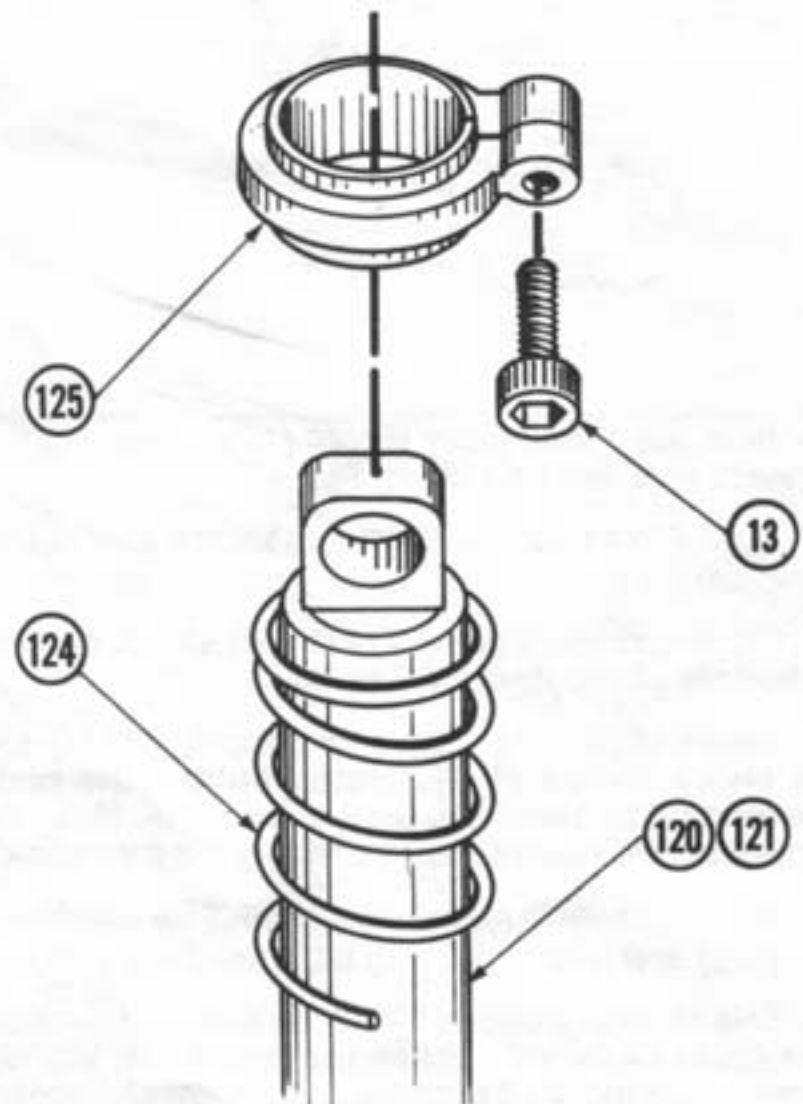

Figure 49
16. Insert a 4-40 x 3/8" cap head screw (13) into the larger hole of the shock collar (125) and thread into the smaller hole. Fig. 49
17. With the collar (125) loose, slide it down over top of shock body (120), (121) against spring (124) and tighten. Fig. 49